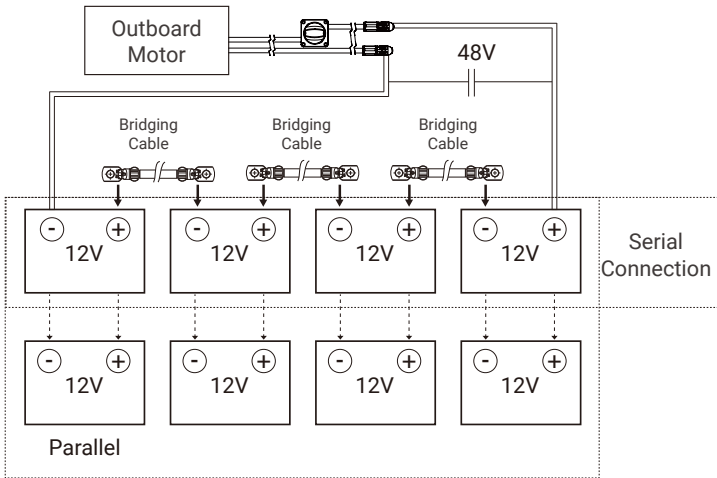

Figure 4-3
When connecting four 12V batteries in series to make a 48V battery set to supply power for NAVY 6.0 Evo(2024), use bridging cables to connect batteries in series (Figure 4-3). Make sure to connect the main switch cable to battery positive terminal and the other cable to battery negative terminal.
-  Never reverse the polarity. Please pay more attention when connecting batteries in series and/or in parallel configuration. Always double check by referring to Figure 4-3.